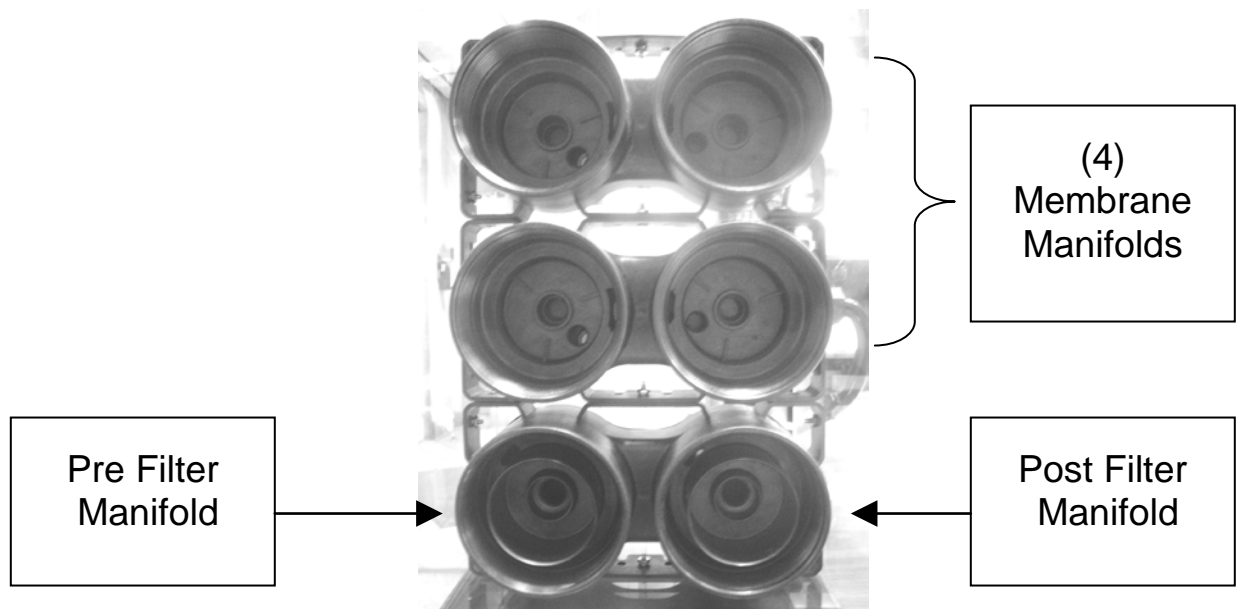

Figure 3. Manifold
3. The four membranes are installed in the manifolds with the single ring. Figure 3.